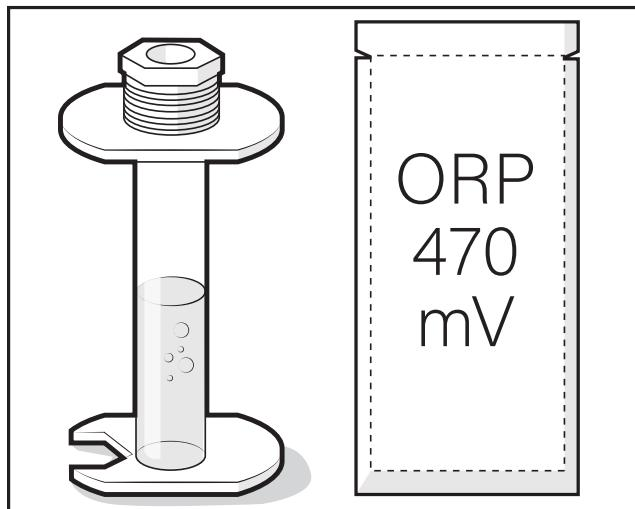

Figure 11. Fill storage tube halfway
4. Fill the storage tube to the halfway point with ORP 470 buffer solution, see Figure 11.